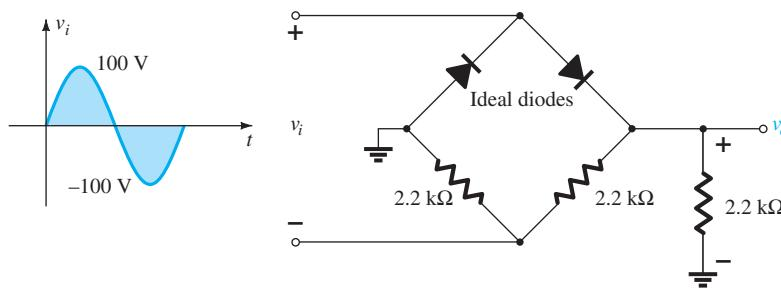

FIG. 2.174
*30. Sketch v_o for the network of Fig. 2.174 and determine the dc voltage available.